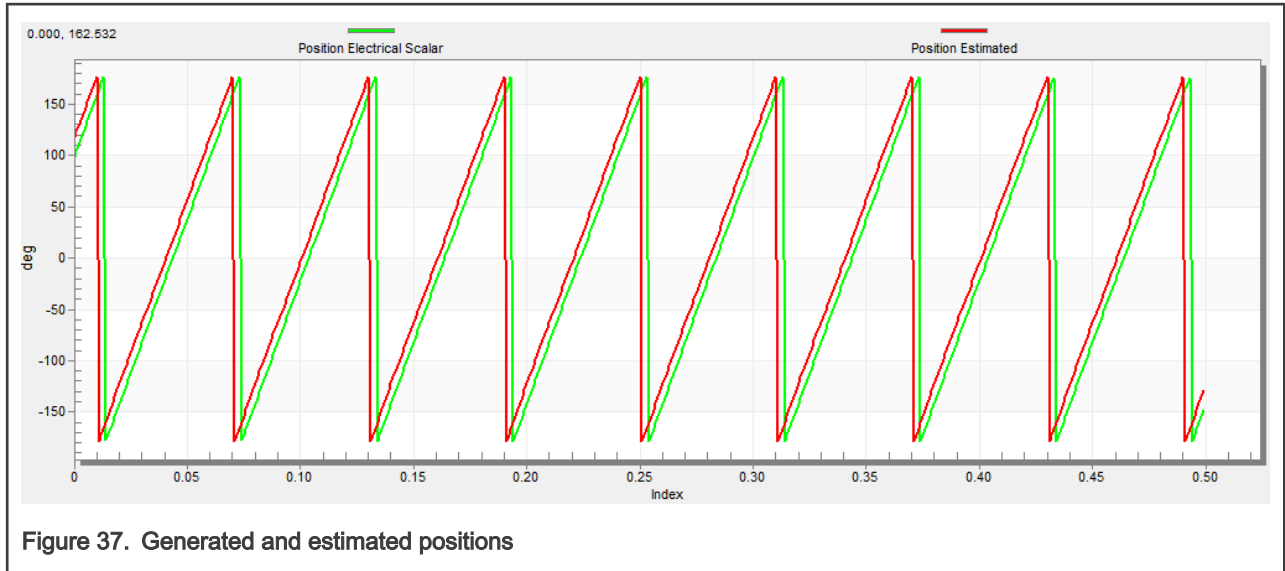

Figure 37. Generated and estimated positions
- Select the “Position” recorder to check the observer functionality. The difference between the “Position Electrical Scalar” and the “Position Estimated” should be minimal (see Figure 37) for the Back-EMF position and speed observer to work properly. The position difference depends on the motor load. The higher the load, the bigger the difference between the positions due to the load angle.